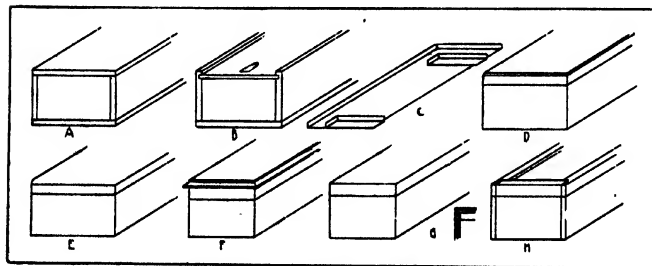
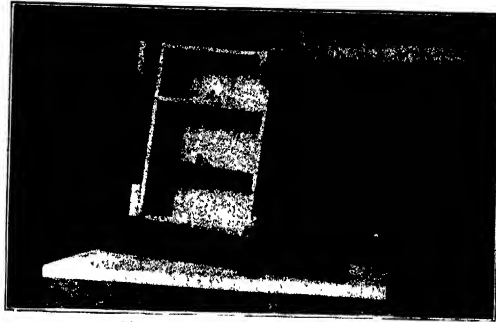

Fig. 285 Forms of Box Construction.
Fig. 286. Gluing Together a Box.
*The Lids of Boxes.* The simplest form is a full flat cover, Fig. 285, A, which may be nailed or screwed to the box, as in packing cases. The cover may slide into a groove, Fig. 285, B, along the sides
and into one end, the other end being lowered to admit it. The cover may have cleats on its underside, Fig. 285, E, which fit just inside the box and keep the top in place. The cleats also prevent the
The lid may be boxed, Fig. 285, D, that is, portions of the sides may be affixed to the top. These extra pieces are a help to stiffen the top and to keep it from warping. A boxed top may have the top board flush with the sides, Fig. 285, E. The disadvantage of this is that the top may shrink and part from the sides and give a bad appearance. The overlapping top, Fig. 285, F, obviates this trouble of shrinkage and adds a decorative element. In this case the top may be glued on or screwed from below thru the side strips.
The top may be mitered into the sides, Fig. 285, G. The shrinkage trouble still obtains here. Otherwise the appearance is excellent. The top may be paneled into the sides, Fig. 285, H. This has a good appearance if the sides are mitered or ledged but not if the sides are butted or dadoed, because then the groove for the top shows.
In gluing boxes together, it is a good plan to glue the ends and sides together first and to let these joints dry before gluing on the bottom and, in the case of a boxed top, Fig. 285, D, the top. Care must be taken to see that the sides do not bow under the pressure. To prevent this, one or more false, temporary partitions as A, B, in Fig. 286, of exactly the length to keep the sides
straight, may be inserted. In gluing together boxes with rabbeted joints, Fig. 285, H, pressure should be applied in both directions.